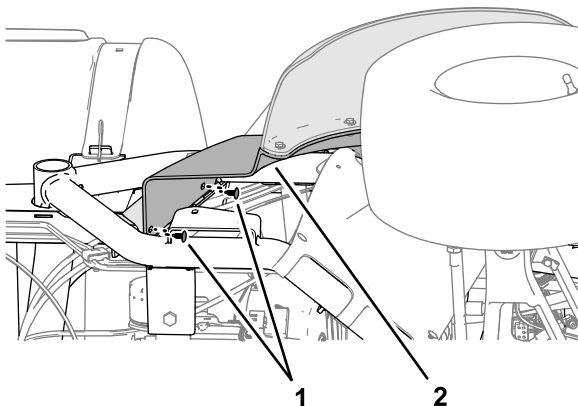

Figure 41
3. Carefully remove the 2 push-in fasteners that secure the right, front fender to the roll bar mounting channel (Figure 41).